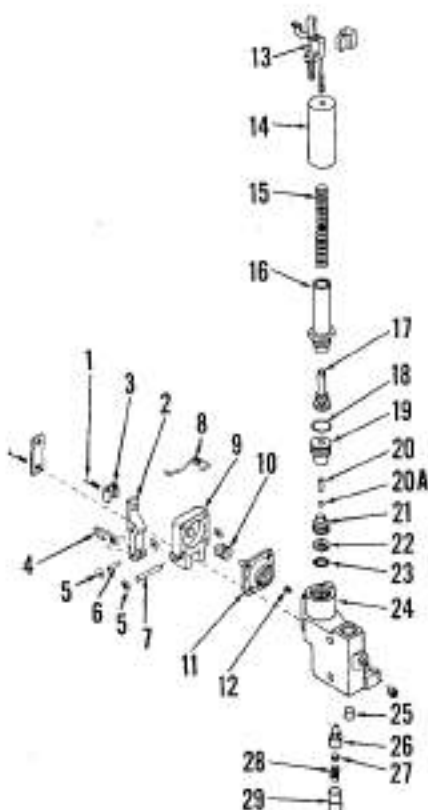

Fig. 238—Exploded view of servo valve assembly.
control adjusting screw (1—Fig. 238) out of pivot lever (2) until end of bolt is flush with inside of lever. Remove adjusting block (13), tube (14) and spring (15) from servo valve if not removed previously. Unhook diaphragm lever link (4) from control valve, remove valve mounting stud nut, and remove servo valve from top of pump.
**227. SERVO VALVE.** Refer to Fig. 238 for exploded view of servo valve. Unbolt and remove diaphragm cover (9). Use an Allen wrench to remove orifice plug (12). Thread a suitable screw into retainer plug (29) and remove retainer, spring (28), discs (27) and secondary relief valve (26). Remove guide (16) and spring support (17), then bump housing to remove plunger (20) and ball (20A). Use hooked wire to pull plunger guide (19) from bore then use needlenose pliers to pull ball valve seat (21) from bore.